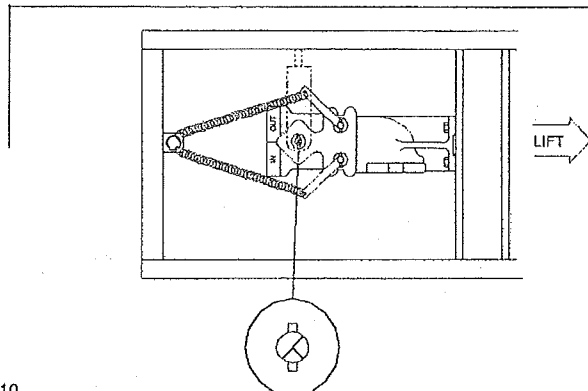

Fig. 14
- A. Install return springs on control valve handles and attach to control box, Fig. 14.
- B. Electric/Hydraulic: set valve stem and roll pin orientation, Fig. 14.